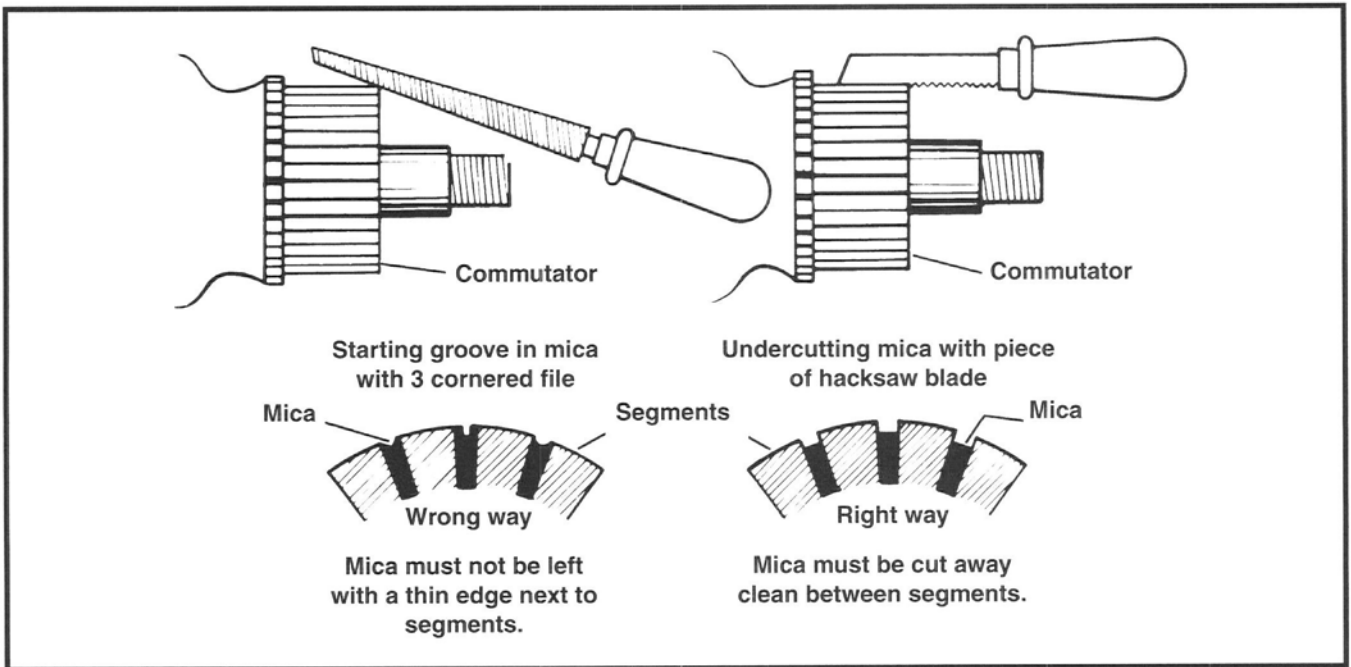

Figure 74. Undercutting the Mica Separators
9. See Figure 74. If an undercutting machine is not available, undercutting can be done satisfactorily using a thin hacksaw blade. After undercutting, lightly sand the armature with crocus cloth to remove any burrs.